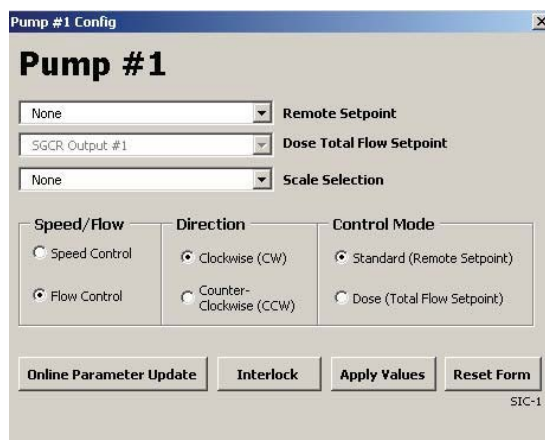

Figure 2.40. "Pump Configuration" form.
- To change a pump's operating mode from speed control to flow control, open the Configuration screen. Verify that the correct vessel number is displayed. Then click the pump to open the "Pump Configuration" form (Figure 2.40).